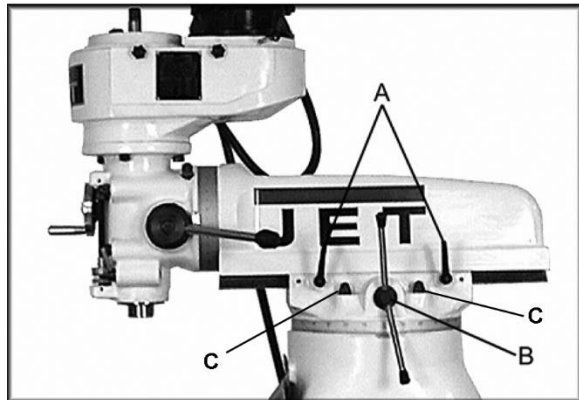

Figure 12: Ram positioning
1. Loosen two handles (A, Figure 12) that lock ram to its ways.
2. Turn handle (B, Figure 12) to move ram on its ways.
3. When desired position is reached, tighten handles (A) securely.
1. Loosen four turret lock bolts (C, Figure 12). One-half (1/2) turn should be sufficient to allow turret to move.
3. Tighten four turret lock bolts (C, Figure 12).